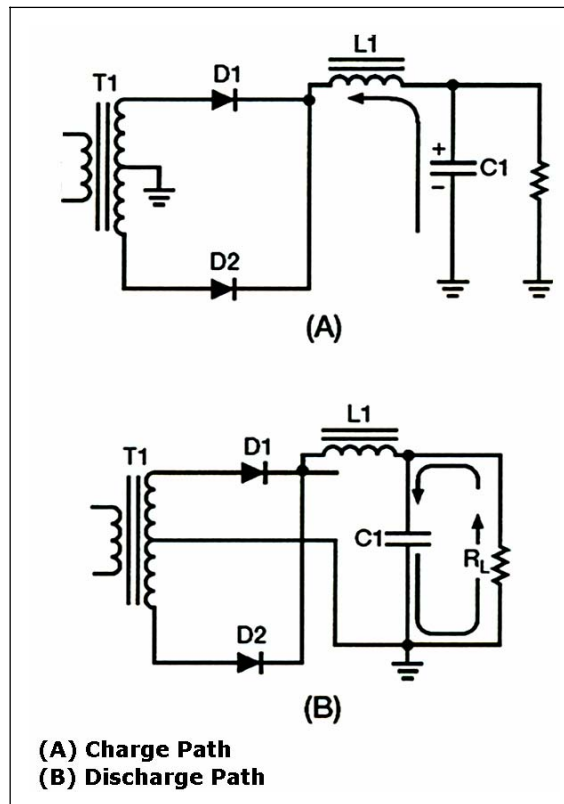

Figure 4-20. LC Choke-input Filter (Charge and Discharge Paths)
Therefore, the RC charge time constant is short compared to its discharge time. Figure 4-20, views (A) and (B) shows the comparison in RC charge and discharge paths. Consequently, when the pulsating voltage is first applied to the LC choke-input filter, the inductor (L_1) produces a cemf that opposes the constantly increasing input voltage. The net result is to effectively prevent the rapid charging of the filter capacitor (C_1). Instead of reaching the peak value of the input voltage, C_1 only charges to the average value of the input voltage. After the input voltage reaches its peak and decreases sufficiently, the capacitor (C_1) attempts to discharge through the load resistance (R_L). Figure 4-20, view (B) shows that C_1 will only partially discharge because of its relatively long discharge time constant. The larger the value of the filter capacitor, the better the filtering action. However, because of physical size, there is a practical limitation to the maximum value of the capacitor.